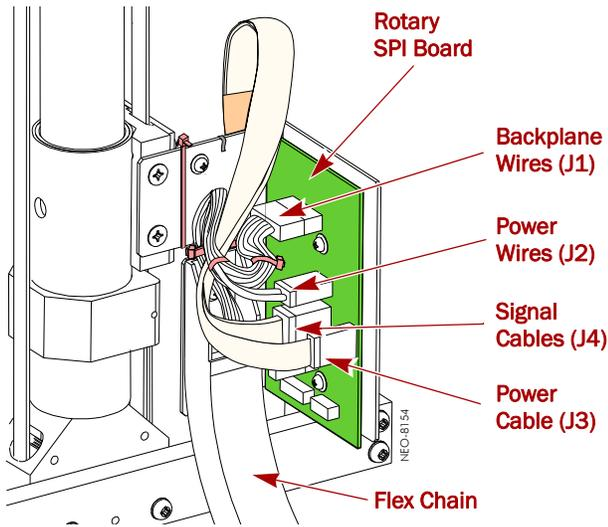

Figure 5. Rotary SPI Board in Rear Z-Axis Assembly (Rear View)
2. Disconnect cables and wiring bundles from the connectors on the PWA (Figure 5 on page 3):